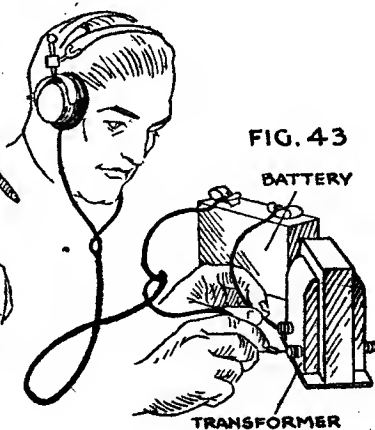

FIG. 43
*Testing Transformers:* If an audio transformer is thought to be defective, its windings can be tested for breaks by making use of the earphone-battery circuit which forms the basis of the condenser test. Hook one phone tip to the terminal of a small battery (a C battery will serve), connect the other battery terminal to one primary terminal of the transformer, and touch the remaining phone tip to the second primary terminal (see Fig. 43). If a good snappy click is heard when the contact is made and again when the contact is broken, you can be sure that nothing is wrong with the primary winding. Repeat the process to test the secondary. If the click is extremely faint or inaudible, the wire of that particular winding is broken at some point. As in all continuity tests, an ohmmeter also can be used to test transformers.